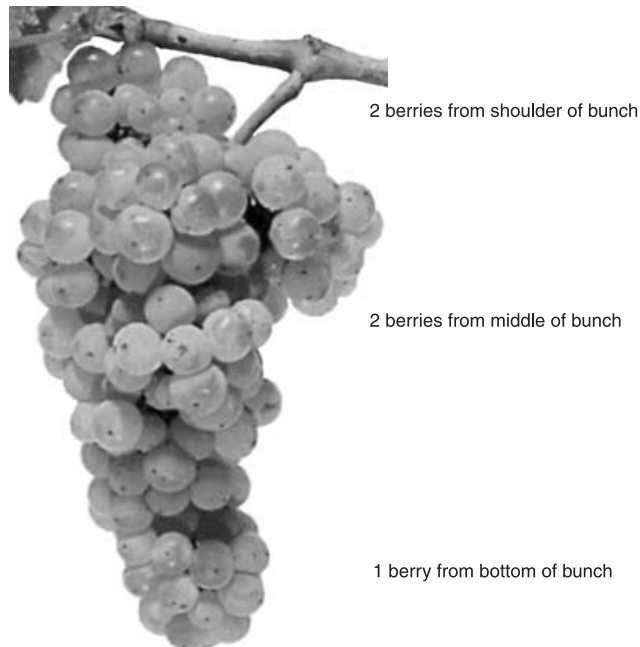

Figure 33. Taking a berry sample from a bunch
- From each bunch take five berries: two from the shoulder, two from the middle and one from the bottom of the bunch (Figure 33). Each sample will consist of 500 berries.